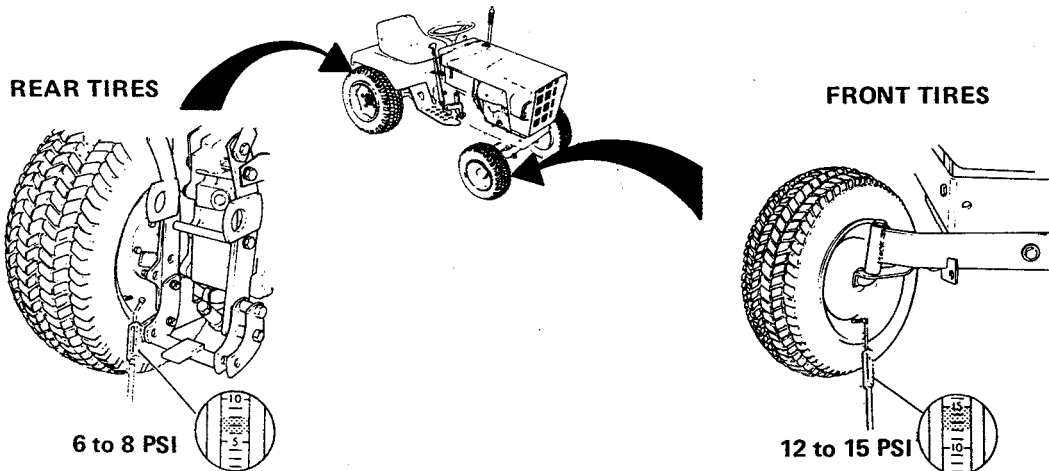

Figure 10. Check Fluid Levels and Tire Pressures (25-Hour Care)
6. Check battery fluid level. (See figure 10.) Battery life will be increased if it is removed and stored in a cold, dry place and fully charged about once a month.
5. Check fluid levels and tire pressure. (See figures 10 and 11.)